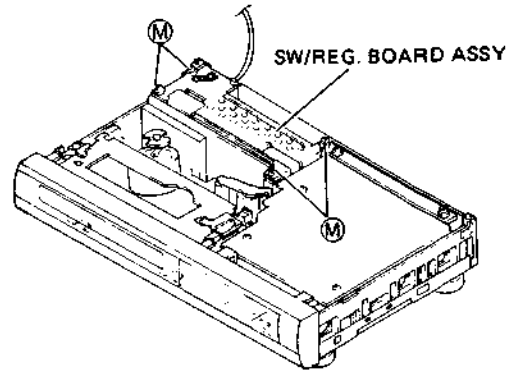

Fig. 1-1-11 Switching regulator board
2. Refer to Fig. 1-1-11 and take out 4 screws (M) from the switching regulator board assembly.